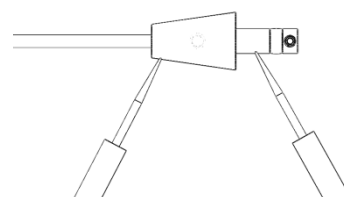

Figure 3 - Continuity Test #2
4. Slide glass assembly (N) gently up over tube/socket assembly (M). As tube/socket assembly (M) reaches internal ridge in glass, carefully center tube so it can clear internal ridge. Stop when about 1" of tube/socket assembly (M) is visible out the bottom end of the glass (L). (Figures 3 & 4)
(Figure 3)